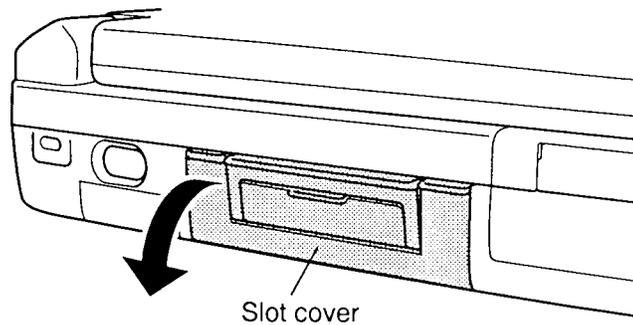

Figure 4-7 Opening the PCMCIA slot's Cover
To remove an optional PCMCIA card from the T2150 series, follow the steps below and refer to figures 4-7 and 4-8.
3. Pull open the **slot cover** (figure 4-7).